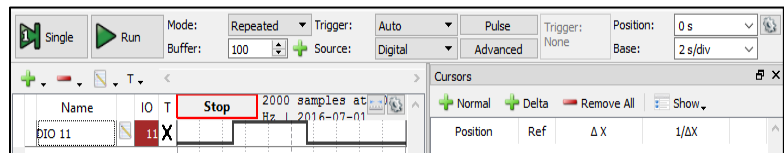
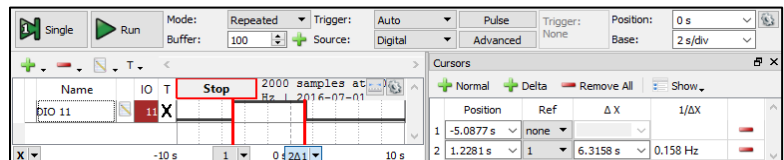

Figure 26: Setting up Measurement
Figure 27: Measurement with Normal and Delta Cursors
**Measurement:** The measurement tool can measure time and frequency using cursors. Press view, cursors to bring up the measurement tool, see Figure 26. You will need to add a normal cursor and a delta cursor. To add a normal cursor, select the green + next to Normal. Drag the cursor to the first point you want to measure. To add a delta cursor, select the green + next to Delta. Drag the cursor to the second point you want to measure. The cursor tool will show you the position of both cursors. You can look at the time between the two cursors and the corresponding frequency, as shown in Figure 27.